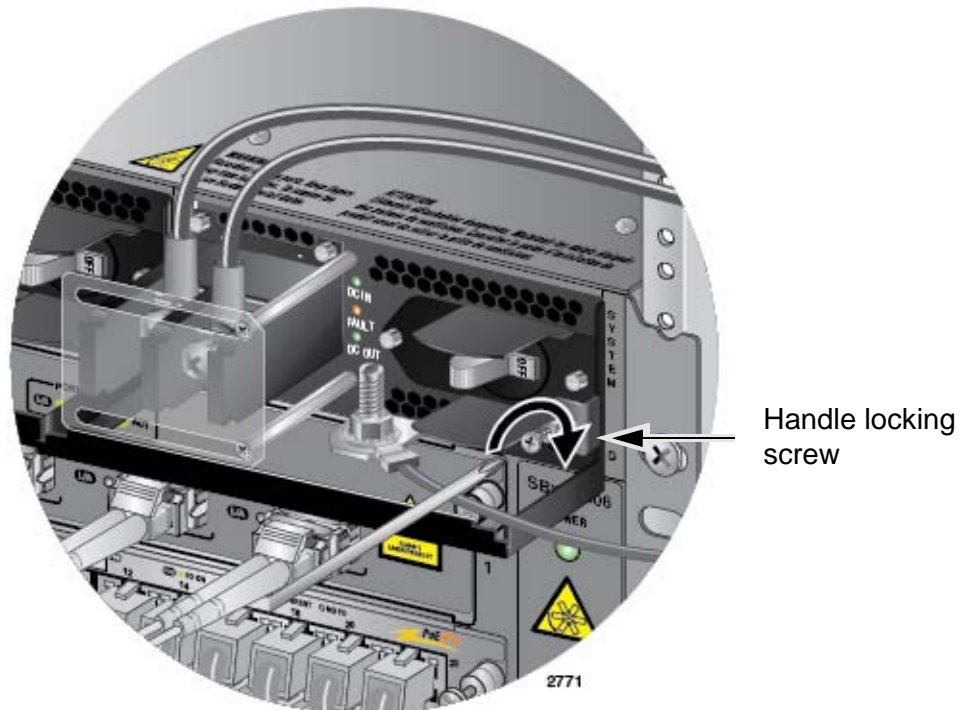

Figure 143. Tightening the Handle Locking Screw
9. With a #2 Phillips-head screwdriver, tighten the handle locking screw to secure the power supply to the chassis. See Figure 143 on page 202.
8. With a #2 Phillips-head screwdriver, tighten the handle locking screw to secure the power supply to the chassis. See Figure 143 on page 202.